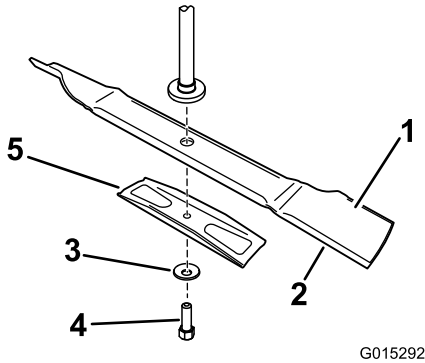

Figure 46
Hold the blade end using a rag or thickly-padded glove. Remove the blade bolt, curved washer, blade stiffener, and blade from the spindle shaft (Figure 46).
1. Install the blade onto the spindle shaft (Figure 46).
2. Install the blade stiffener, the curved washer (cupped side toward the blade) and the blade bolt (rotating it clockwise) (Figure 46).